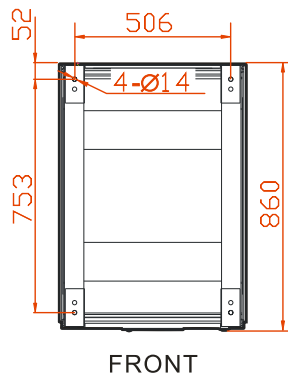

Figure3-10 Bottom size of PS75KVA,PS125KVA, PS200KVA, PS300KVA (unit: mm)
Step 2 Drill 4 holes (hole diameter is $\phi 13$) by hammer drill according to the bottom installation hole size (as shown in Figure3-10, Figure3-11).